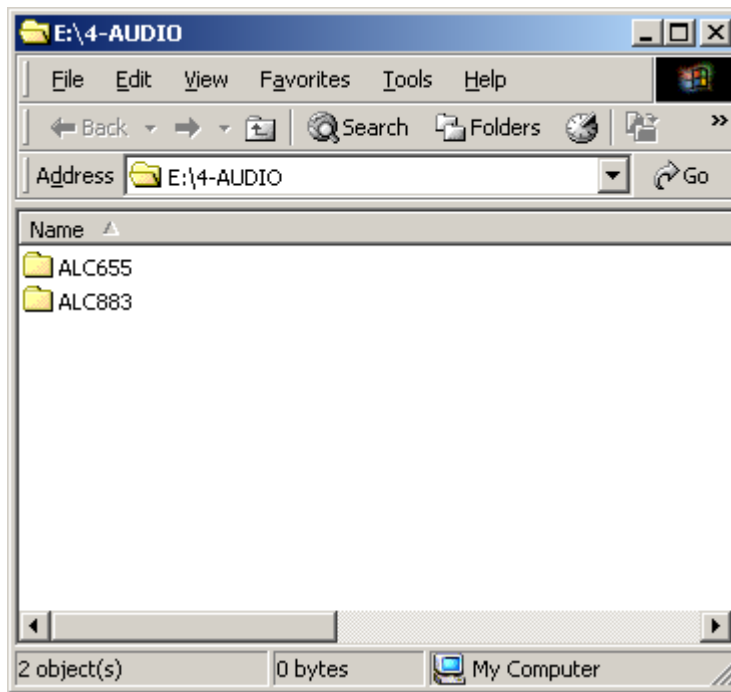

Figure 7-42: Select the Audio CODEC
Step 2: A new window opens (**Figure 7-42**).